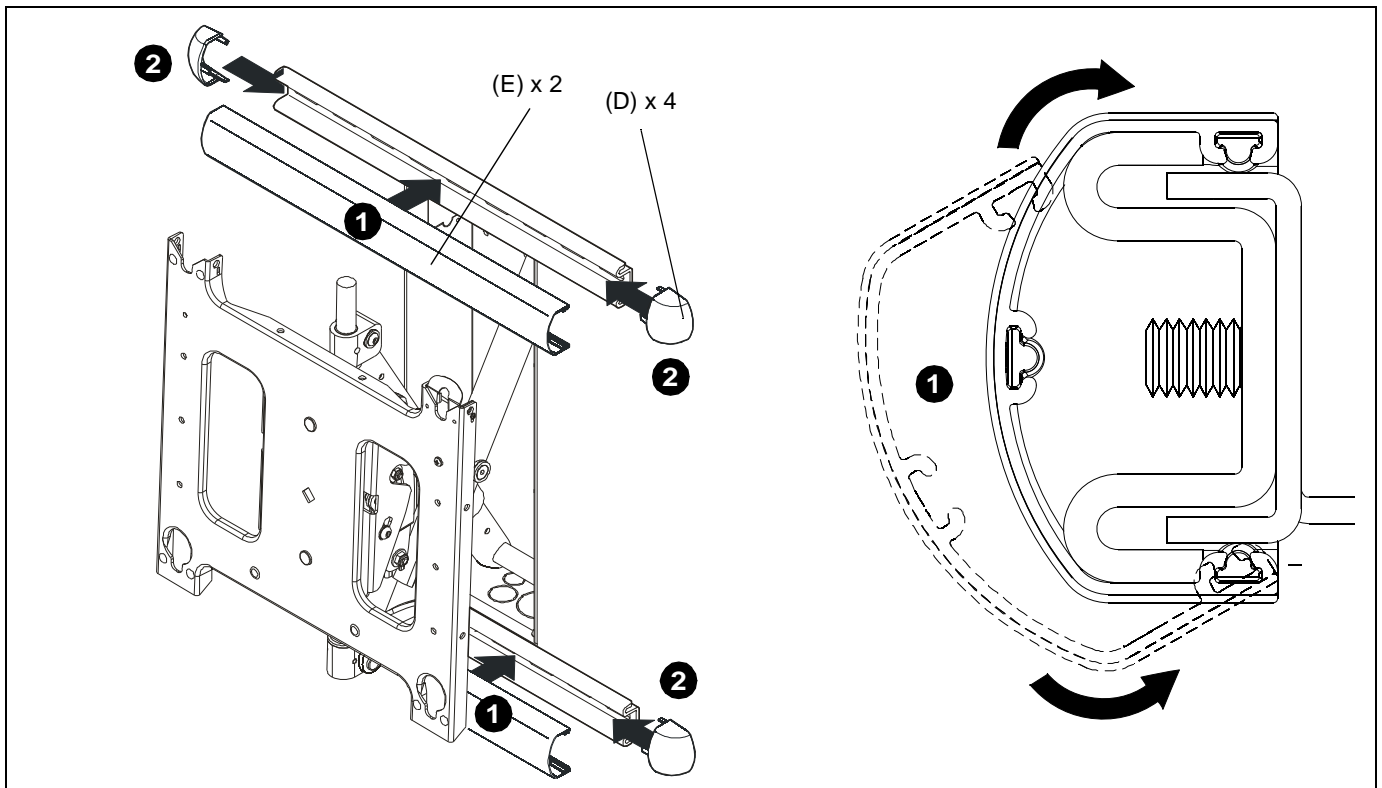

Figure 8
1. Install upper and lower wall channel covers (E) by tipping cover top down and positioning as shown in end view of figure below. (See Figure 8)
2. Tap firmly across bottom of channels to lock in place as shown in figure below. (See Figure 8)
3. Install four R.H. and L.H. end caps (D) by aligning tabs on end caps (D) with slots in wall channel covers (E) and sliding tabs in until end caps (D) are flush with wall channel covers (E). (See Figure 8)